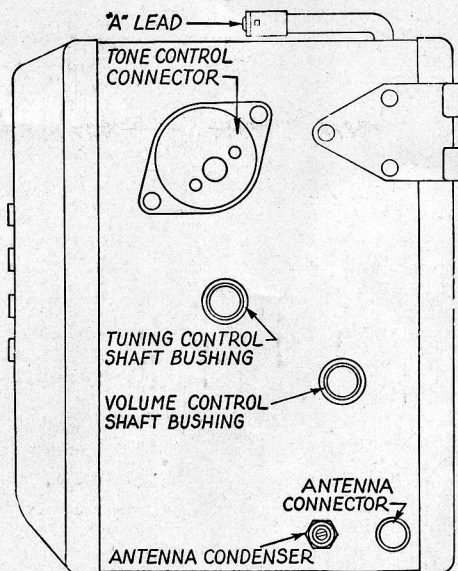
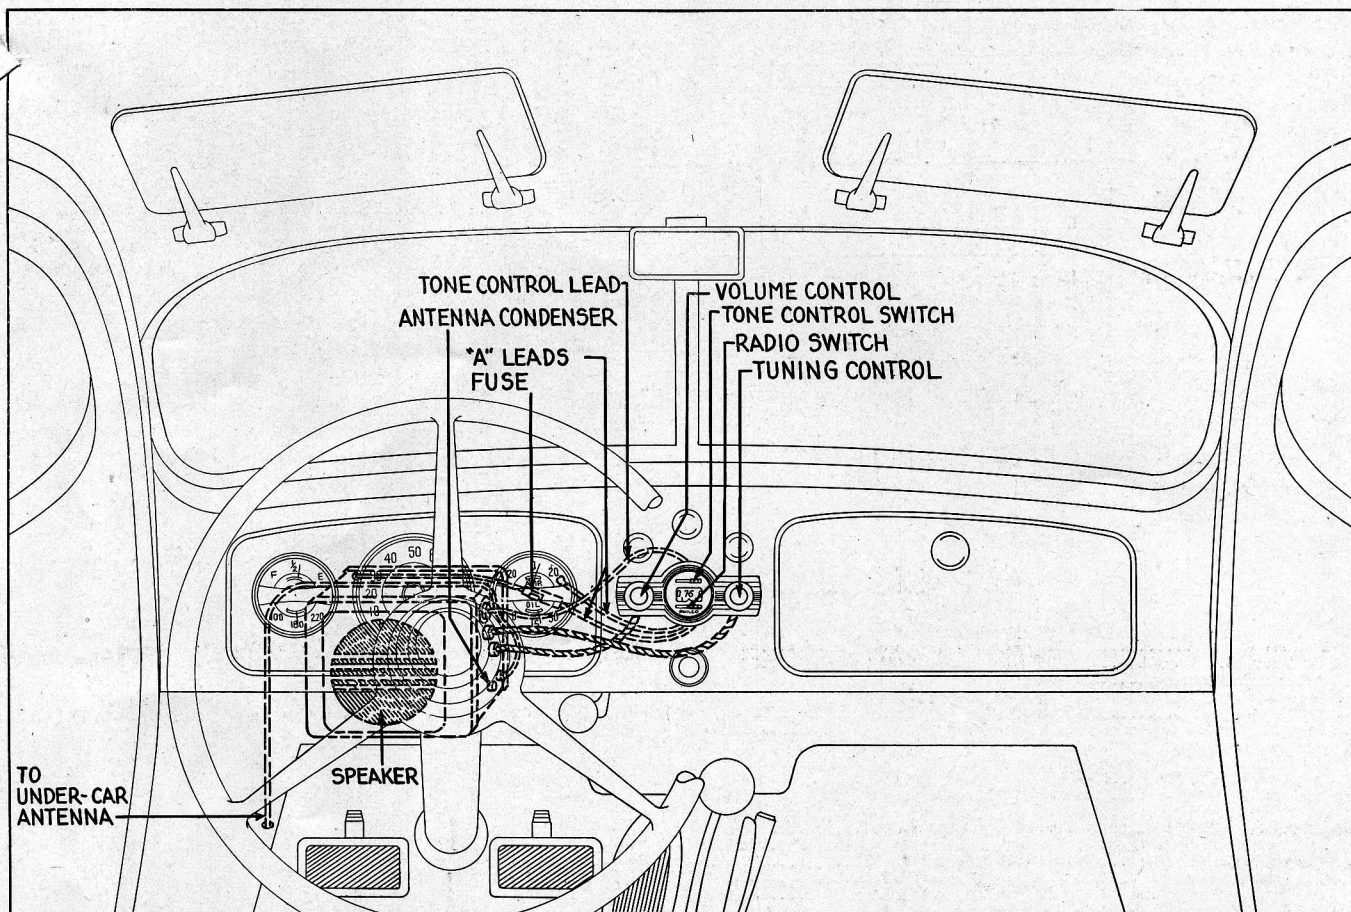

FIGURE 2
FIGURE 3
Seat the volume control shaft in the proper bushing on the Receiver housing (see Figure 2 and Figure 3) and tighten the shaft casing nut securely. Before coupling the tuning control shaft to the Receiver, turn the tuning control knob counter-clockwise to the mark below 55 on the scale. To couple the shaft, turn the knob counter-clockwise slowly until the shaft end is seated in the bushing and tighten the knurled casing nut securely with the fingers.
**ANTENNA CONNECTION**—Place the connector plug (supplied with the Receiver) in the antenna lead connector in the Receiver and then plug the antenna lead into the antenna lead connector. The location of the antenna connector is shown in Figure 2.
**STONE CONTROL CONNECTION**—The tone control switch is on the top of the control unit. Connect the black lead from the tone control switch to the Receiver. The location of the tone control connector is shown in Figure 2.
**ANTENNA COUPLING ADJUSTMENT**—Turn on the radio and tune in a *weak broadcast signal at approximately 75* on the control scale. The volume control should be turned well up. With a small screw driver, adjust the antenna coupling condenser for the maximum signal. The location of the coupling condenser is shown in Figure 2.